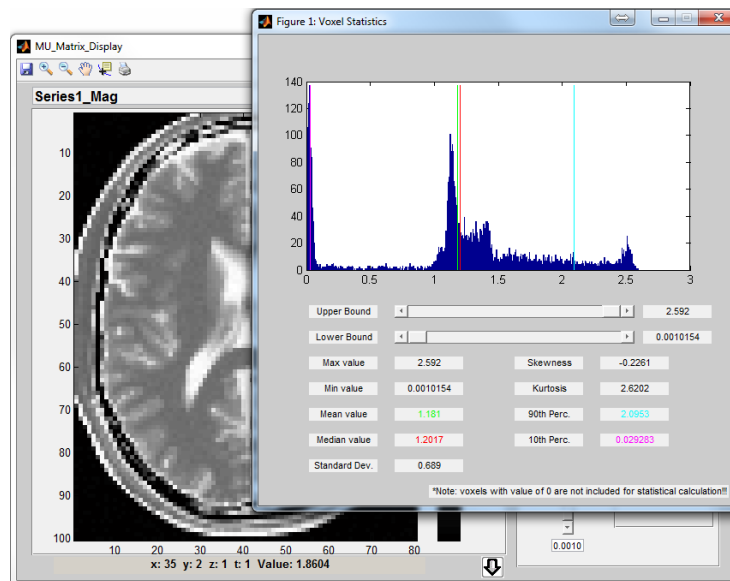

Figure 6.8: Histogram for One Image Slice
-  : Plot histogram for current slice (Figure 6.8), if ROIs exist, plot histogram for latest ROI